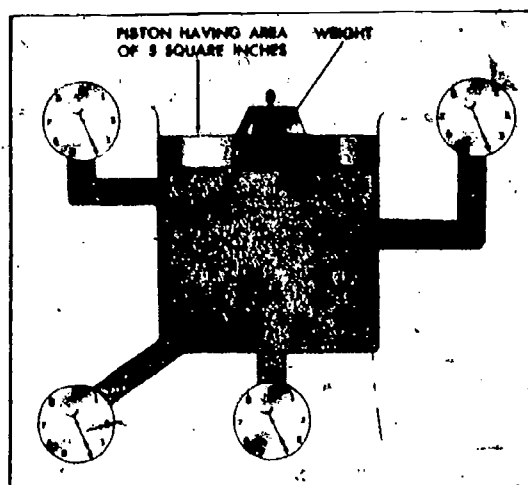
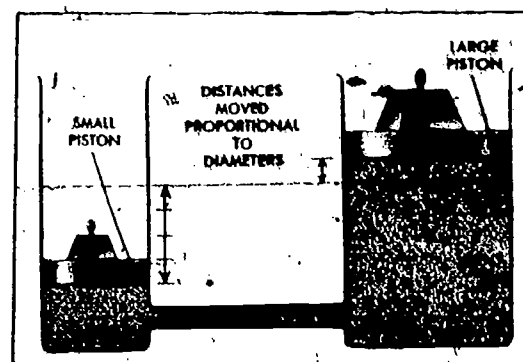

Fig 4-1. Distribution of hydraulic pressure.
Fig 4-2. Piston movement and volume displacement.
a. **Principles.** In a hydraulic system, pressure applied at one place will be transmitted by the liquid throughout the system. The hydraulic systems used in engineer equipment work on the principle that a liquid cannot be compressed. Another hydraulic principle is that a force exerted at any point on a confined liquid will be distributed equally in all directions throughout the system (fig 4-1). Hydraulic pressure and piston area provide mechanical advantage. For example, the 5 sq in. piston in figure 4-1 with a weight of 20 lb gives a pressure of 4 pounds per square inch (psi). This example can be reversed and you can visualize that 4 psi is developing a total force of 20 lb (5 sq in. x 4 psi) on the large piston. Travel distance of the piston is related to the volume displaced. Volume and travel distance are illustrated in figure 4-2. Note that the small piston must move 4 inches to displace the volume of liquid required to move the large piston 1 inch.